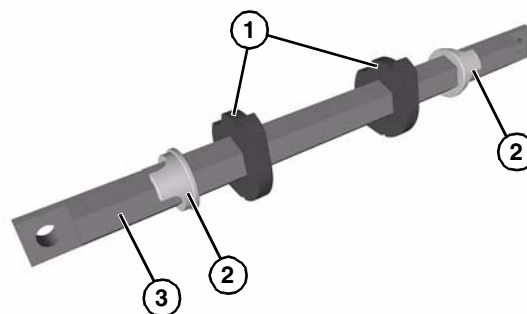

Figure 17
1. Slide stop keys (**Figure 17, item 1**) and tip up sleeves (**Figure 17, item 2**) onto hex shaft (**Figure 17, item 3**). The tabs on the tip up sleeves face outward and align with the slotted ends of the hex shaft as shown.